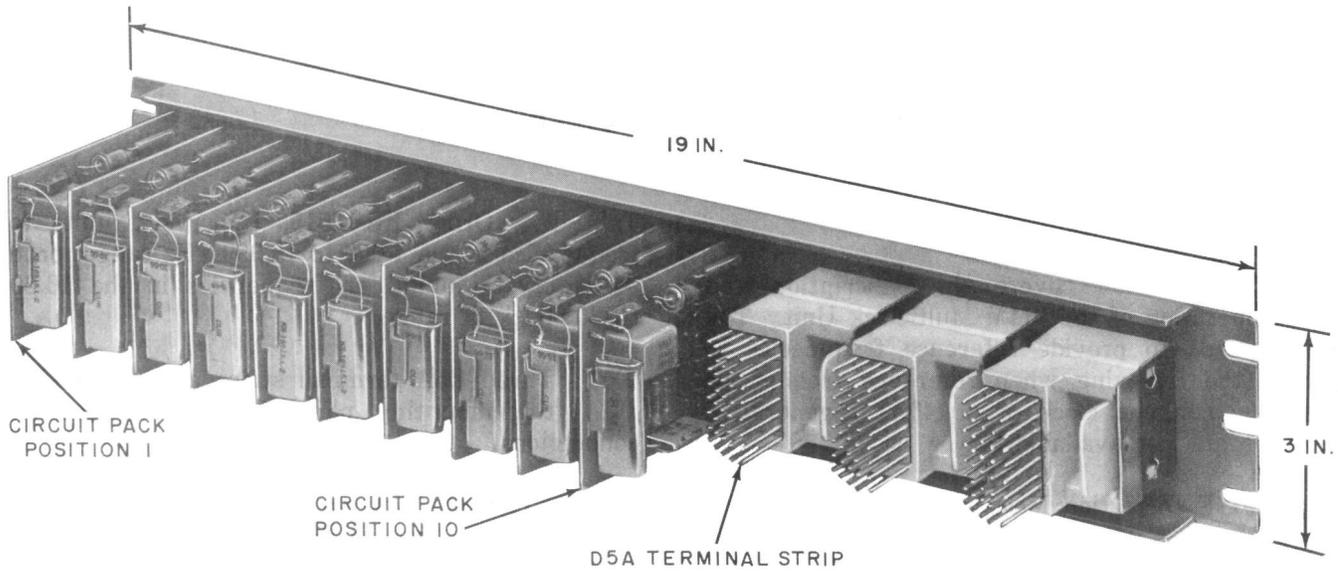

Fig. 1—911M Multiclock—Front View
2.01 The 911M Multiclock Unit consists of ten similar circuit pack (CP) printed wiring board units mounted on a 3-inch by 19-inch steel mounting plate (Fig. 1). The circuit packs are nonplug-in units and each requires an approved crystal unit which must be ordered separately. The frequency range and the number of each wiring board is listed in Table A. Crystal frequencies used for existing systems are listed in Table B. Select crystals from those listed in Table B for wiring boards listed in